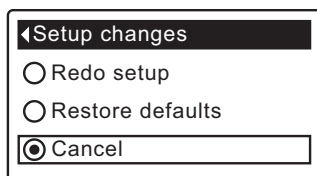

FIG. 24
1. From any of the rolling status screens, press the SELECT (O) button to display the **Main menu**.
3. Press the SELECT (O) button to display the **Advanced settings** menu.
5. Press the SELECT (O) button to display the **Troubleshooting** menu.
7. Press the SELECT (O) button to display the **Setup changes** menu (See Figure 24).
8. Press the RIGHT (▶) button. The flashing padlock icon will disappear, as shown in Figure 24.
9. Press the SELECT (O) button.